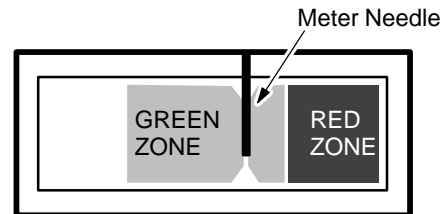

FIG. 10
4. Adjust pad pressure meter within Green Zone. Press the pad pressure switch to decrease or increase pressure. For best results adjust needle as shown (Figure 10).